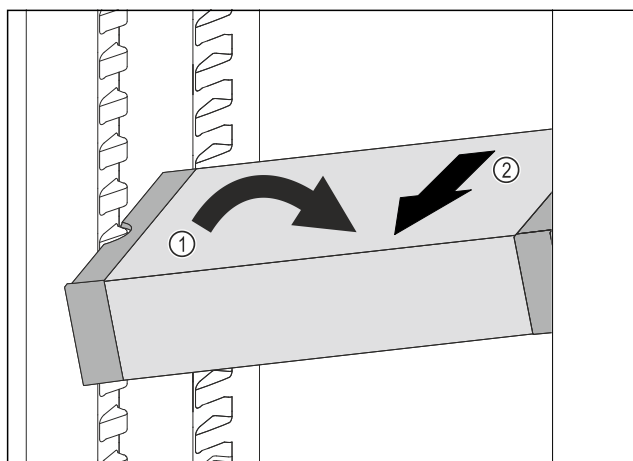

Fig. 122
- Set VarioSafe in refrigerator compartment at an angle. Fig. 122 (1)
- Take VarioSafe out to the front. Fig. 122 (2)